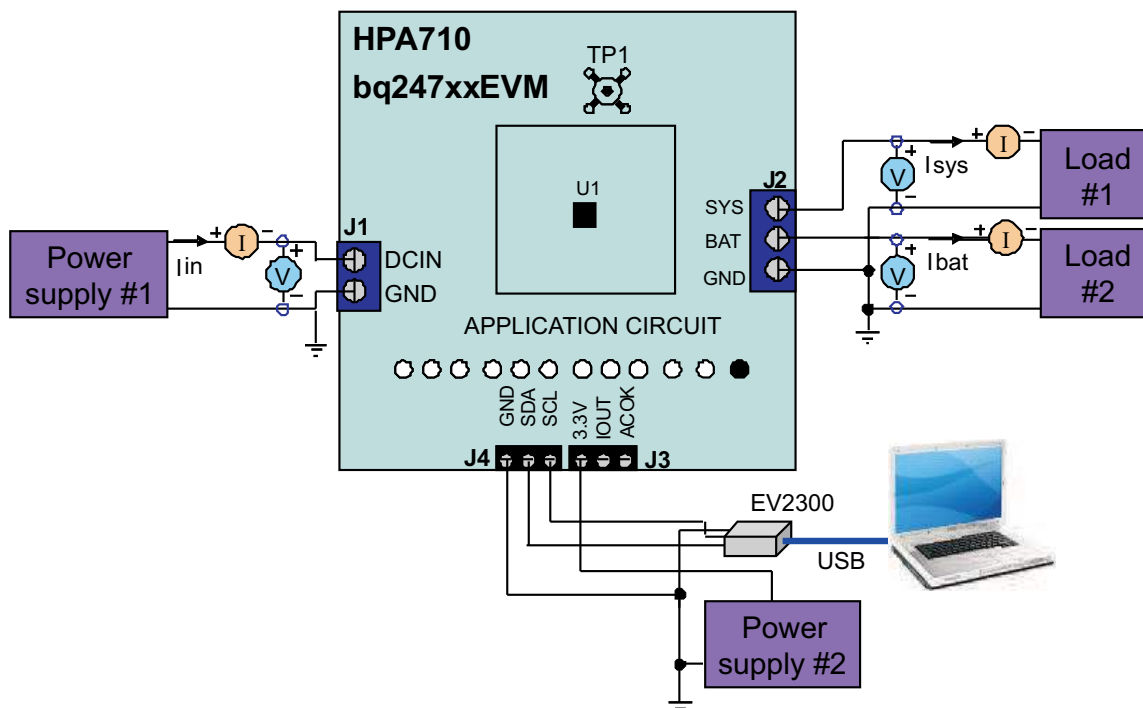

Figure 4. Test Setup for HPA710
3. Connect the output of the Load #1 in series with a current meter (multimeter) to J2 (SYS, GND). Ensure that a voltage meter is connected across J2 (SYS, GND). Turn on the power of the Load #1. Set the load current to  $3\text{ A} \pm 50\text{ mA}$  but disable the output. The setup is now like Figure 4 for HPA710. Ensure that  $I_{bat} = 0\text{ A} \pm 10\text{ mA}$  and  $I_{sys} = 0\text{ A} \pm 10\text{ mA}$ .